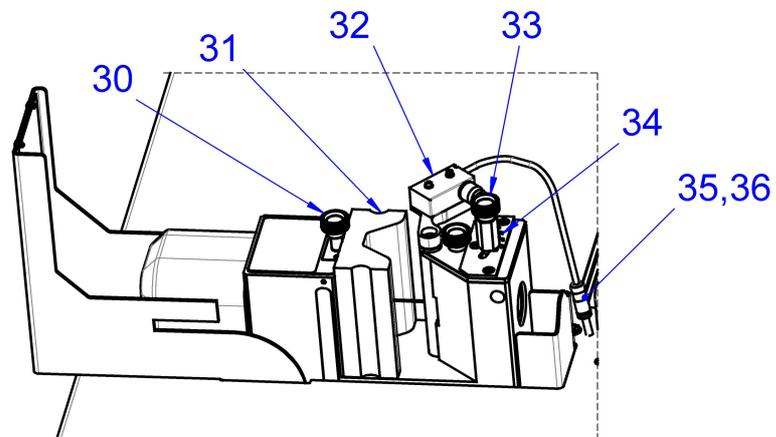

Fig. 5: Bending busbars
The copper or aluminium busbars are bent with a bending die (fig. 5, 31) that bends the workpiece with both sides over a bending mandrel.
- Insert the bending die (fig. 5, 31) in the tool holder of the load piston and tighten the locking screw (fig. 5, 30).
- Insert the electronic angle indicator (fig. 5, 32) in the half-open hole of the main body.
- Insert the plug (fig. 5, 35) of the connection cable in the socket (fig. 5, 36) behind the work block.
- Set the desired bending angle at the setting screw (fig. 5, 33) using the angle scale (fig. 5, 34).